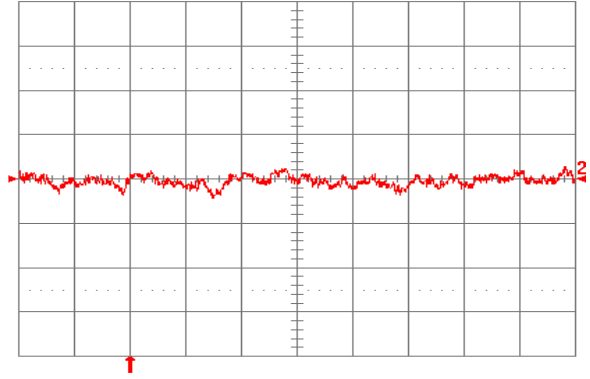

**Fig. 1.8V.14:** Test Setup for measuring input reflected ripple currents,  $i_c$  and  $i_s$ .
**Fig. 1.8V.1:** Available load current vs. ambient air temperature and airflow rates for SQ48T15018 converter with D height pins mounted vertically with  $V_{in} = 48\text{ V}$ , air flowing from pin 3 to pin 1, and maximum FET temperature  $\leq 120^\circ\text{C}$ .
**Fig. 1.8V.2:** Available load current vs. ambient air temperature and airflow rates for SQ48T15018 converter with D height pins mounted horizontally with  $V_{in} = 48\text{ V}$ , air flowing from pin 3 to pin 1, and maximum FET temperature  $\leq 120^\circ\text{C}$ .
**Fig. 1.8V.3:** Available load current vs. ambient air temperature and airflow rates for SQ48S15018 converter mounted vertically with  $V_{in} = 48$  V, air flowing from pin 3 to pin 1, and maximum FET temperature  $\leq 120$  °C.
**Fig. 1.8V.4:** Available load current vs. ambient air temperature and airflow rates for SQ48S15018 converter mounted horizontally with  $V_{in} = 48$  V, air flowing from pin 3 to pin 1, and maximum FET temperature  $\leq 120$  °C.
**Fig. 1.8V.5:** Efficiency vs. load current and input voltage for SQ48T/S15018 converter mounted vertically with air flowing from pin 3 to pin 1 at a rate of 300 LFM (1.5 m/s) and  $T_a = 25$  °C.
**Fig. 1.8V.6:** Efficiency vs. load current and ambient temperature for SQ48T/S15018 converter mounted vertically with  $V_{in} = 48$  V and air flowing from pin 3 to pin 1 at a rate of 200 LFM (1.0 m/s).
**Fig. 1.8V.7:** Power dissipation vs. load current and input voltage for SQ48T/S15018 converter mounted vertically with air flowing from pin 3 to pin 1 at a rate of 300 LFM (1.5 m/s) and  $T_a = 25^\circ\text{C}$ .
**Fig. 1.8V.8:** Power dissipation vs. load current and ambient temperature for SQ48T/S15018 converter mounted vertically with  $V_{in} = 48\text{ V}$  and air flowing from pin 3 to pin 1 at a rate of 200 LFM (1.0 m/s).
**Fig. 1.8V.9:** Turn-on transient at full rated load current (resistive) with no output capacitor at  $V_{in} = 48\text{ V}$ , triggered via ON/OFF pin. Top trace: ON/OFF signal (5 V/div.). Bottom trace: output voltage (1 V/div.). Time scale: 2 ms/div.
**Fig. 1.8V.10:** Turn-on transient at full rated load current (resistive) plus 10,000 µF at  $V_{in} = 48\text{ V}$ , triggered via ON/OFF pin. Top trace: ON/OFF signal (5 V/div.). Bottom trace: output voltage (1 V/div.). Time scale: 2 ms/div.
**Fig. 1.8V.11:** Output voltage response to load current step-change (3.75 A – 7.5 A – 3.75 A) at  $V_{in} = 48$  V. Top trace: output voltage (100 mV/div.). Bottom trace: load current (5 A/div.). Current slew rate: 0.1 A/μs.  $C_o = 1$  μF ceramic. Time scale: 0.2 ms/div.
**Fig. 1.8V.12:** Output voltage response to load current step-change (3.75 A – 7.5 A – 3.75 A) at  $V_{in} = 48$  V. Top trace: output voltage (100 mV/div.). Bottom trace: load current (5 A/div.). Current slew rate: 5 A/μs.  $C_o = 450$  μF tantalum + 1 μF ceramic. Time scale: 0.2 ms/div.
**Fig. 1.8V.13:** Output voltage ripple (20 mV/div.) at full rated load current into a resistive load with  $C_o = 10$  μF tantalum + 1 μF ceramic and  $V_{in} = 48$  V. Time scale: 1 μs/div.
**Fig. 1.8V.15:** Input reflected ripple current,  $i_c$  (100 mA/div.), measured at input terminals at full rated load current and  $V_{in} = 48$  V. Refer to Fig. 1.8V.14 for test setup. Time scale: 1  $\mu$ s/div.
**Fig. 1.8V.16:** Input reflected ripple current,  $i_s$  (10 mA/div.), measured through 10  $\mu$ H at the source at full rated load current and  $V_{in} = 48$  V. Refer to Fig. 1.8V.14 for test setup. Time scale: 1  $\mu$ s/div.
**Fig. 1.8V.17:** Output voltage vs. load current showing current limit point and converter shutdown point. Input voltage has almost no effect on current limit characteristic.
**Fig. 1.8V.18:** Load current (top trace, 20 A/div., 20 ms/div.) into a 10 m $\Omega$  short circuit during restart, at  $V_{in} = 48$  V. Bottom trace (20 A/div., 1 ms/div.) is an expansion of the on-time portion of the top trace.